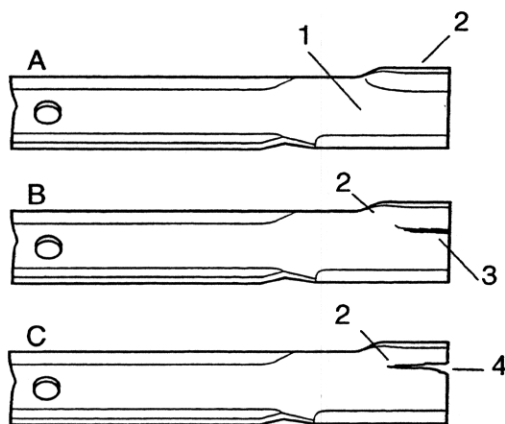

Figure 6
- Examine the cutting ends of the blade carefully, especially where the flat and curved parts of the blade meet (Fig. 6-A). Since sand and abrasive material can wear away the metal that connects the flat and curved parts of the blade, check the blade before using the mower. If you notice wear (Fig. 6-B), replace the blade.
If the blade is allowed to wear, a slot will form between the sail and flat part of the blade (Fig. 6-C). Eventually a piece of the blade may break off and be thrown from under the housing, possibly resulting in serious injury to yourself or a bystander.